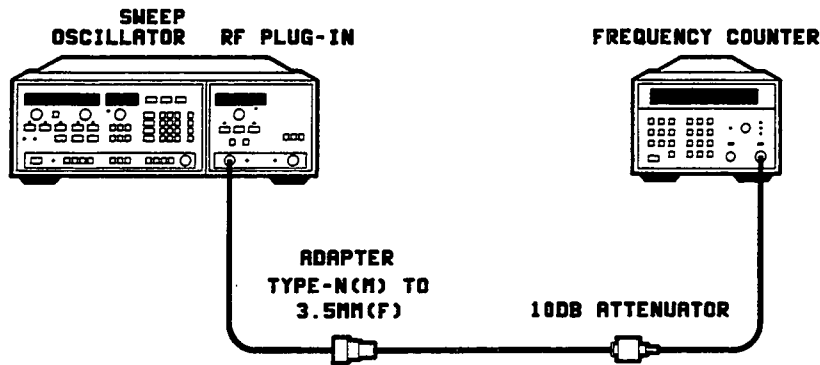

Figure 3-6. Front Panel FREQ CAL Equipment Setup
1. Connect the equipment as shown in Figure 3-6. Turn on the instruments and let them warm up for at least 30 minutes. Ensure that the RF output power is on, either by instrument preset or by using the RF on/off key.